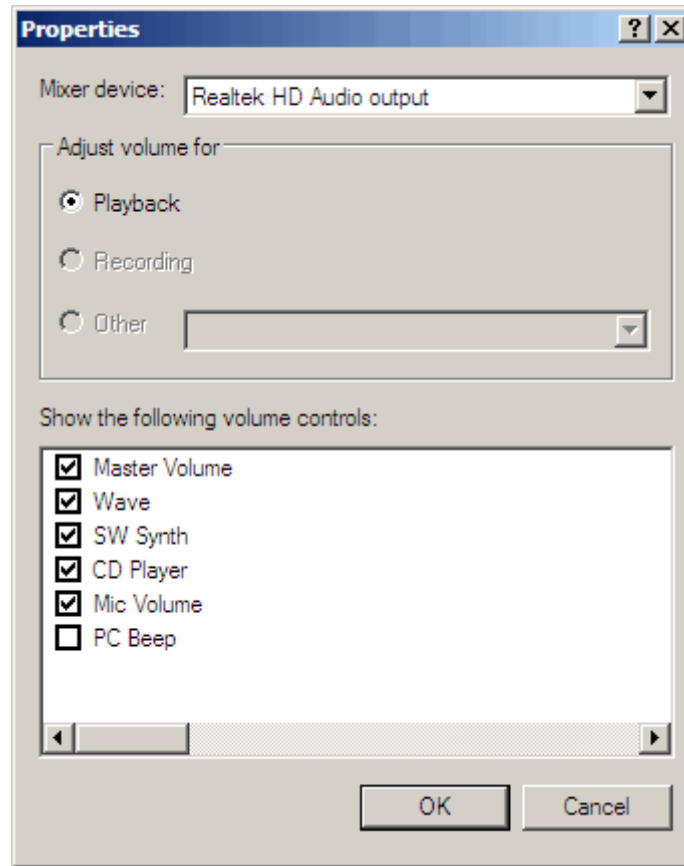

Figure 1.16 Dialog for choosing soundcard and input/output channels
- 3) Mute Line In and Mic channels in dialog '**Master Volume**' (Fig. 1.16).